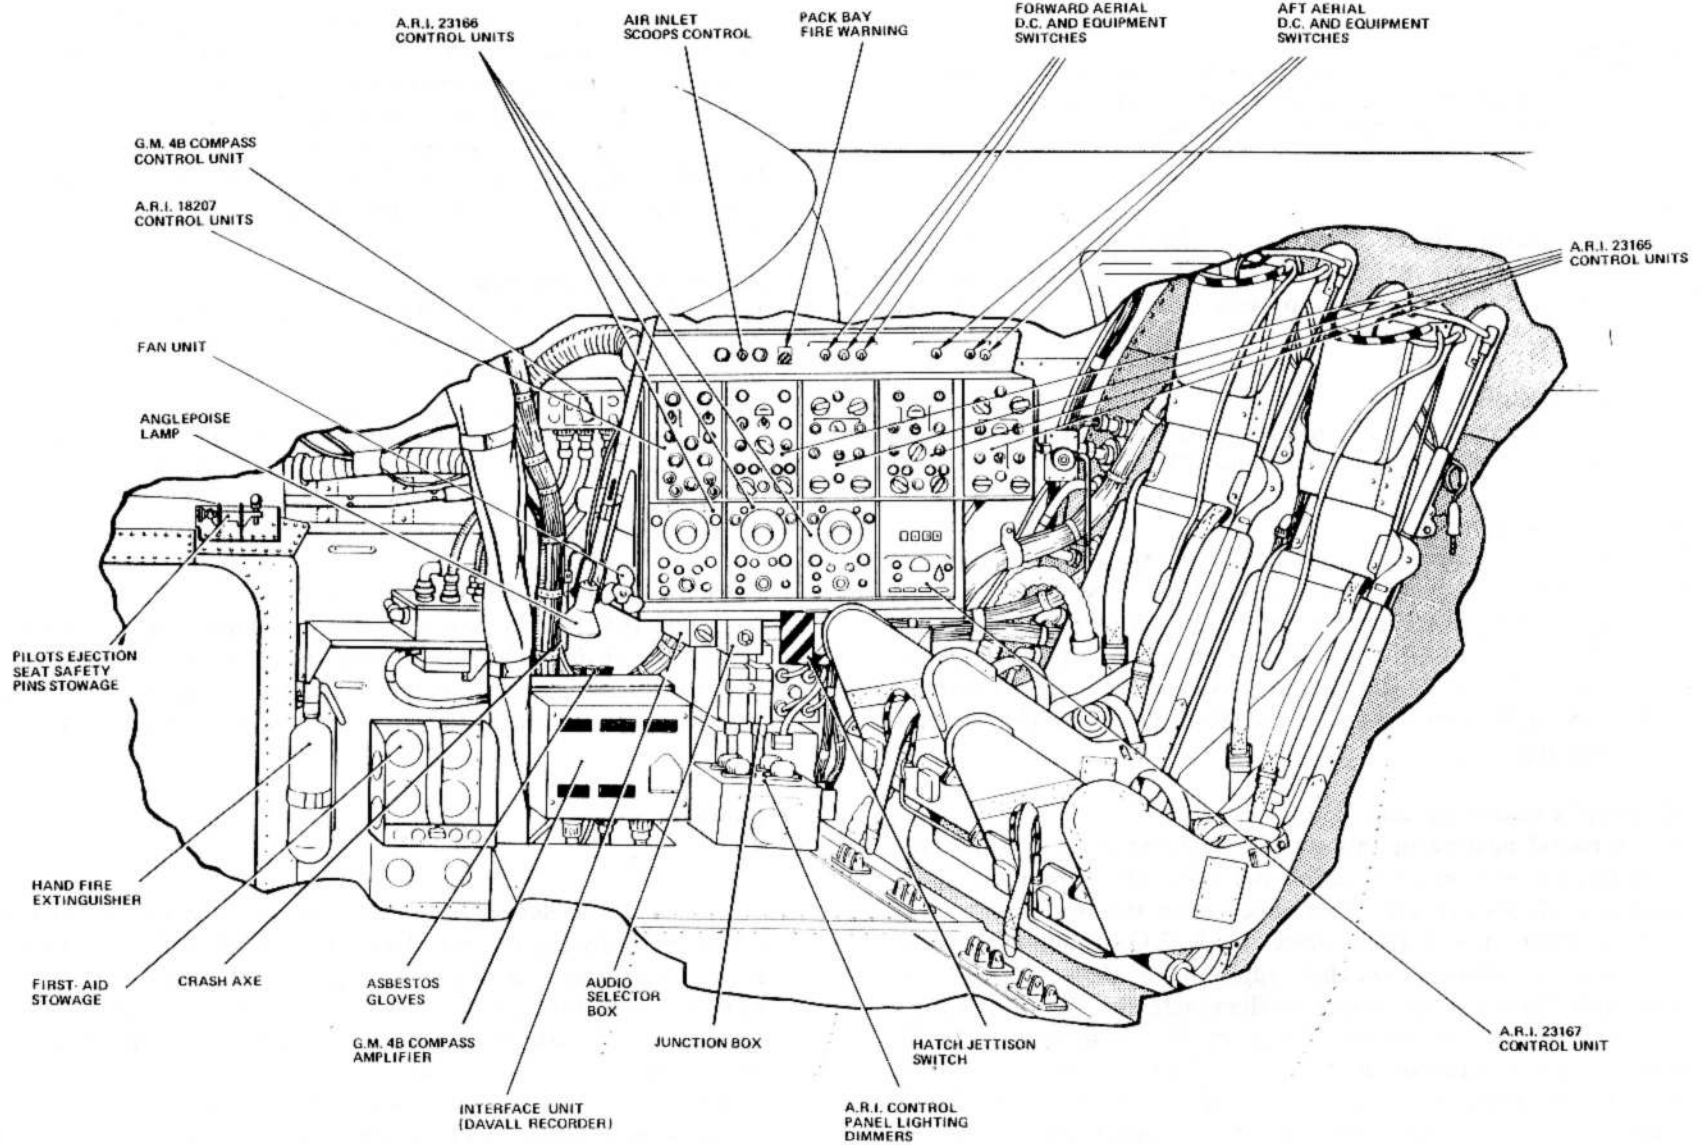

FIG. 2. A.E.O.'s STATION
**A.E.O.'s station (*fig.2*)**